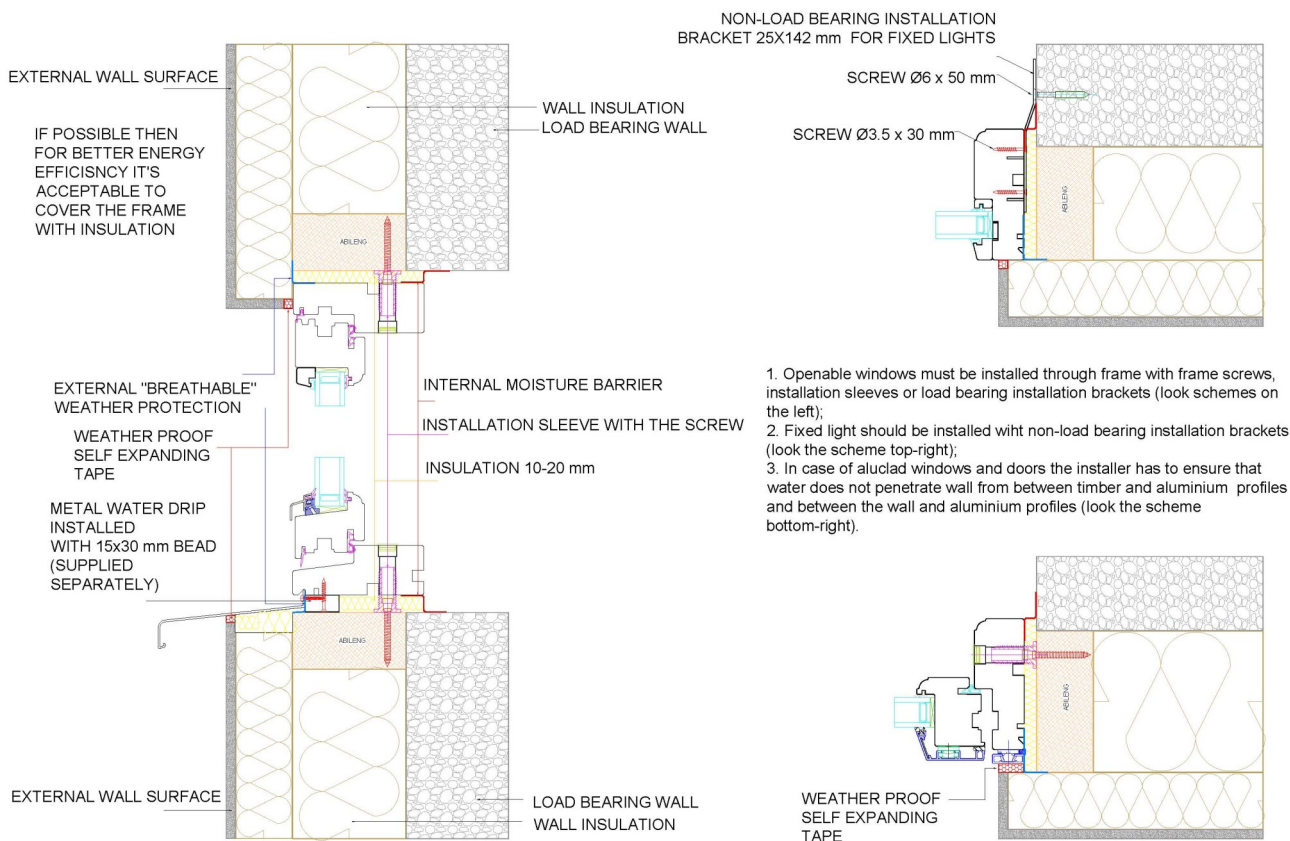

Figure 4. The installation schemes of Viking21 outward opening window
Drill the holes for attachment screws (or installation sleeves) into the frame of an **opening product**; fit attachment brackets onto the frame of a **non-opening product** (see figure 4 page 4).
- Non-opening products (and the non-opening parts of products with multiple holes) are attached to the wall similarly to an opening product (part of an opening product), if possible; if this is not possible, use special installation brackets that are attached to the outer part of the frame as an alternative (see figure 4 on page 4);